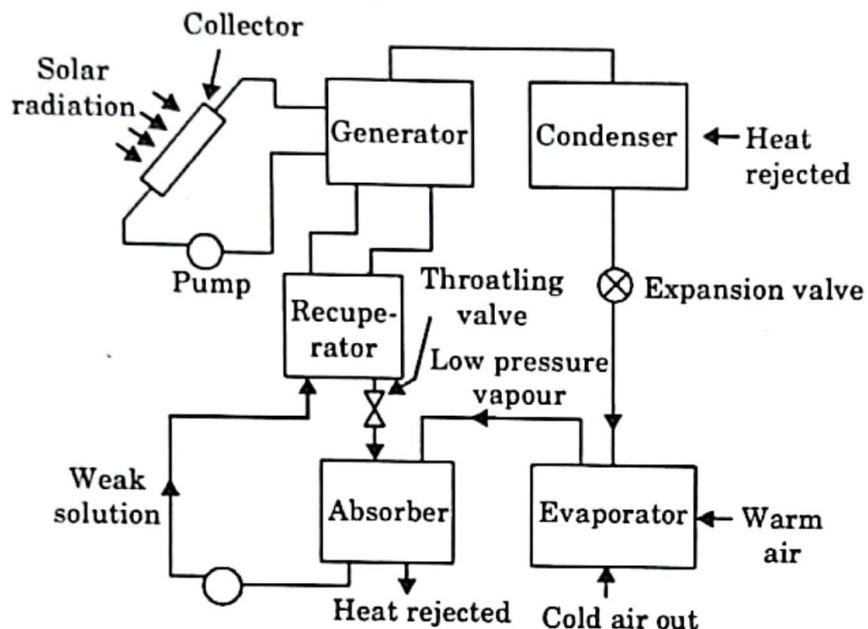

Fig. 2.23.1. Absorption cooling system.
5. The main components of this system are shown in Fig. 2.23.1.